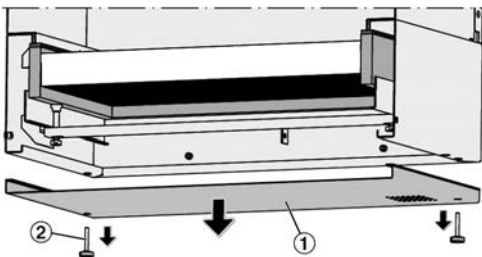

Fig. 7: Removing the diffuser face
- ▶ Unscrew the knurled screws (Fig. 7/2) and remove diffuser face (Fig. 7/1).